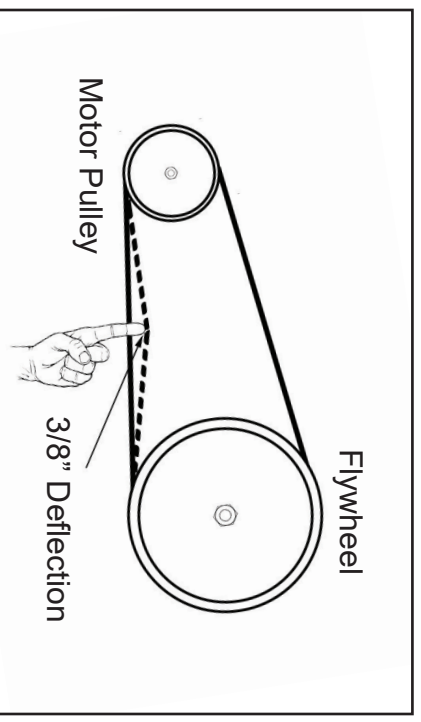

FIGURE 5
7. Tension the Drive Belt by sliding the motor away from the Flywheel. Adjust the Drive Belt until there is 3/8" deflection. Figure 5.